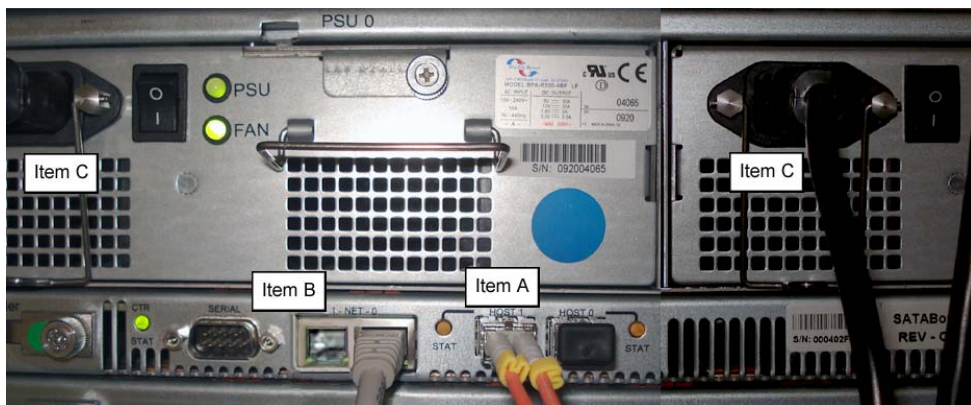

Figure 2: Back of the Nexsan SATABoY
- C. Plug the other end of the Fibre Channel cable into the storage device's HOST "1" channel (see Figure 2, Item A).
- D. Plug the other end of the CAT-5E crossover cable into the storage device's NET "0" port (see Figure 2, Item B).
- E. Plug the storage device's AC power cords into the rear sections of the unit (see Figure 2, Item C).